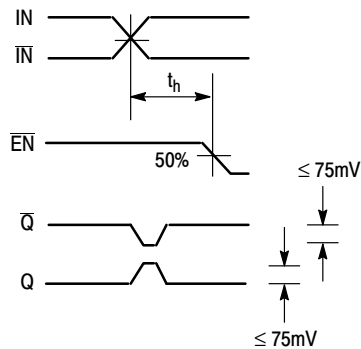

Figure 4. Hold Time
6. The hold time is the minimum time that EN must remain asserted after a negative going IN or a positive going  $\bar{IN}$  to prevent an output response greater than  $\pm 75\text{ mV}$  to that IN/ $\bar{IN}$  transition (Figure 4).
- The hold time is the minimum time that  $\overline{\text{EN}}$  must remain asserted after a negative going  $\text{IN}$  or a positive going  $\overline{\text{IN}}$  to prevent an output response greater than  $\pm 75\text{ mV}$  to that  $\text{IN}/\overline{\text{IN}}$  transition (Figure 4).